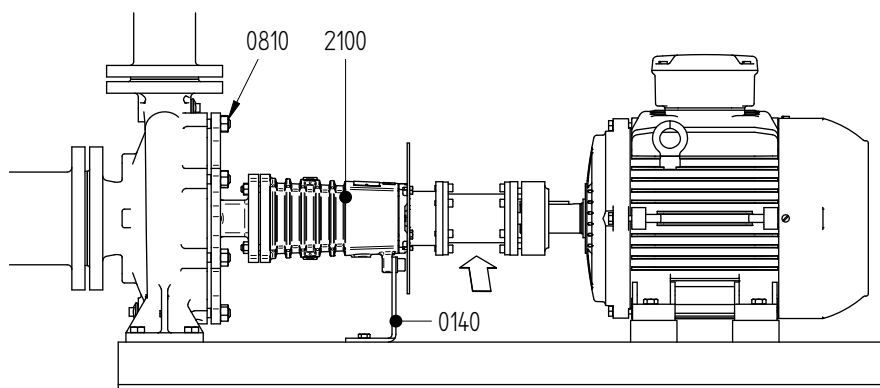
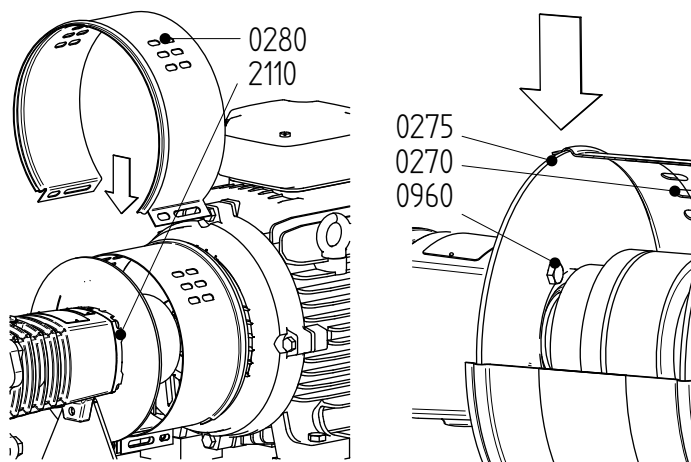

Figure 7: Back-Pull-Out principle.
Figure 11: Fitting the jacket at pump side.
- 2 Loosen the bracket support (0140) from the base plate, see figure 7.
- 5 Remove the coupling half from the pump shaft with a coupling puller and remove the coupling key (2210).
- 6 Unscrew bolts (0940) and remove the assembly plate (0275) from the bearing cover (2110). See figure 11.
- 4 Fit the assembly plate (0275) to the bearing cover (2110) with bolts (0940). See figure 11.
- 5 Fit the coupling key (2210) and fit the coupling half onto the pump shaft.